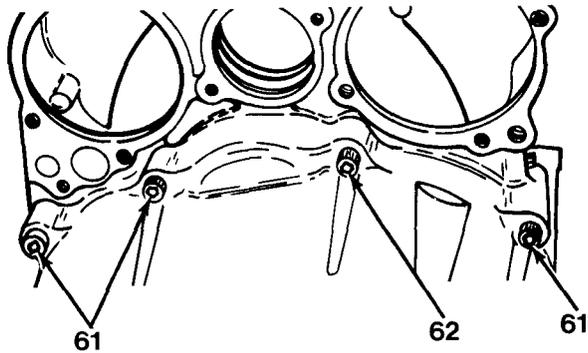

Figure 11-15
34. Remove three capscrews (61) and capscrew (62, Figure 11-15) holding transmission main case to front cover.